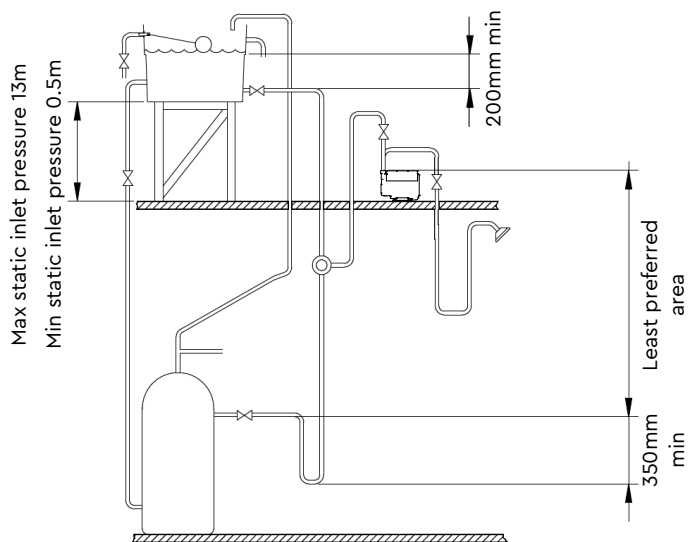
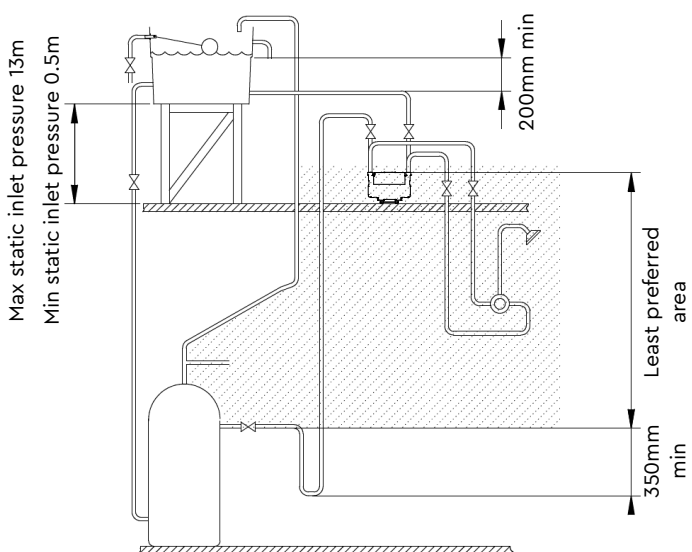

Figure 2
Figure 3
- b. The use of a Stuart Side Entry (SE) cylinder flange, which should have the addition of an inverted loop ("U" bend) of 350 mm minimum drop before rising to the pump, located as close as possible to the cylinder wall. This will ensure the pump receives an air free supply and the cylinder vents any air up the vent pipe and not the pump feed (Figure 2 and Figure 3).